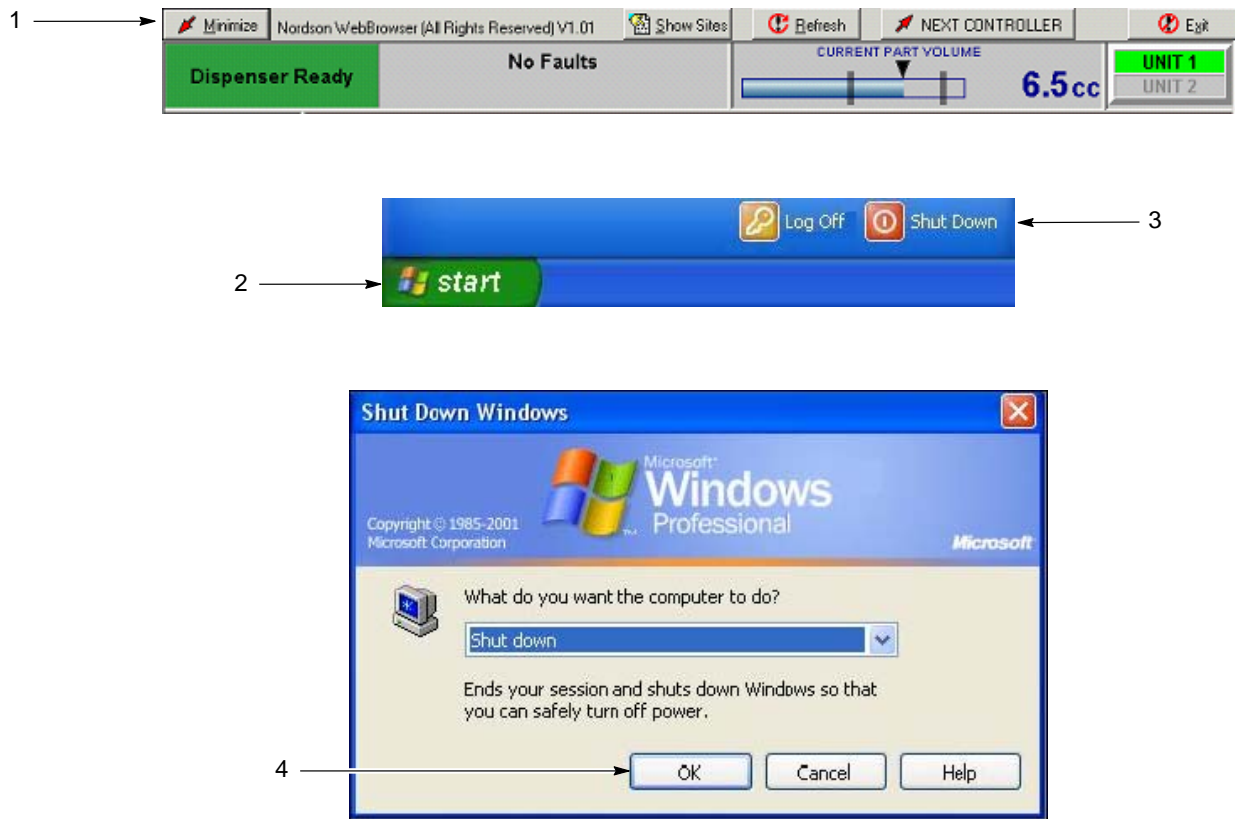

Figure 10 PCI Controller Shutdown
1. See Figure 10. Touch **Minimize** (1) at the top of a screen display.
2. Touch **start** (2) on the Windows task bar to access the **Start Menu**.
3. Touch **Shut Down** (3) on the **Start Menu**.
4. Make sure that **Shut Down** is displayed in the **Shut Down Windows** field. Touch **OK** (04).